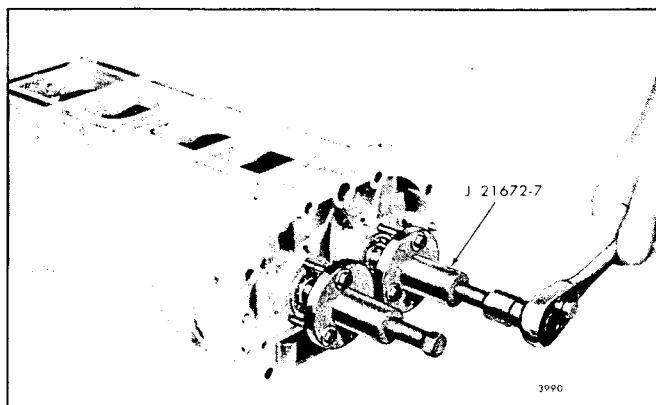

Fig. 7 - Removing Blower Rotors from Front End Plate Ball Bearings (Former Blower)
- a. Back the center screw out of both pullers J 21672-7, then attach the pullers to the blower front end plate with six 1/4 "-20 x 1-1/2 " or longer bolts as shown in Fig. 7.